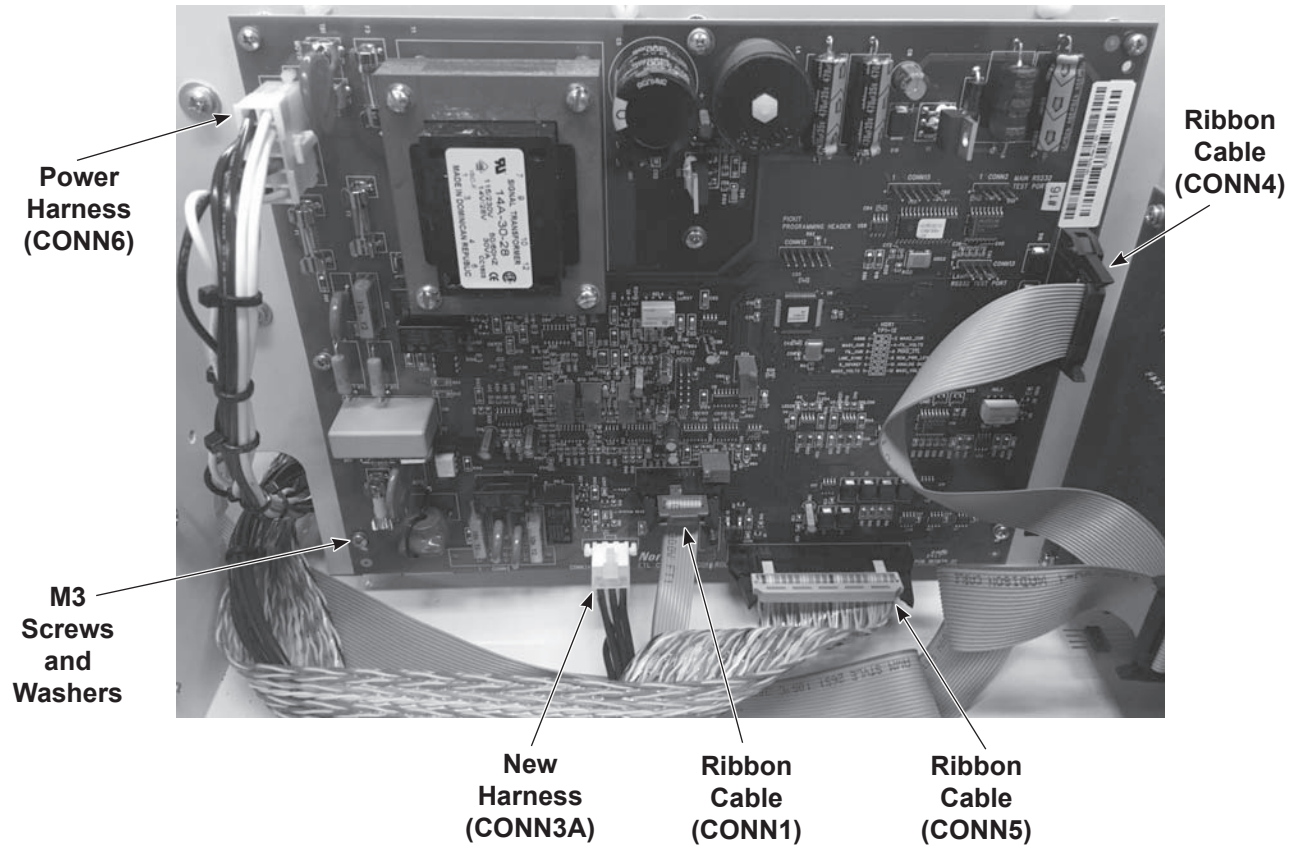

Figure 4 Board Connections and Mounting (shown with newest version of board)
3. See Figure 4. Remove main control board for access to contactor mounting hardware.